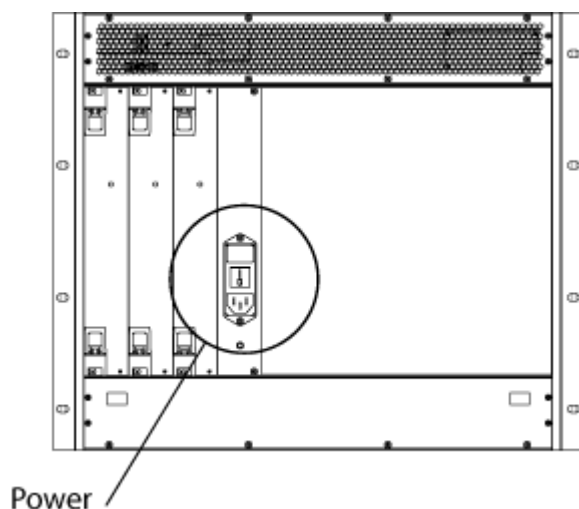
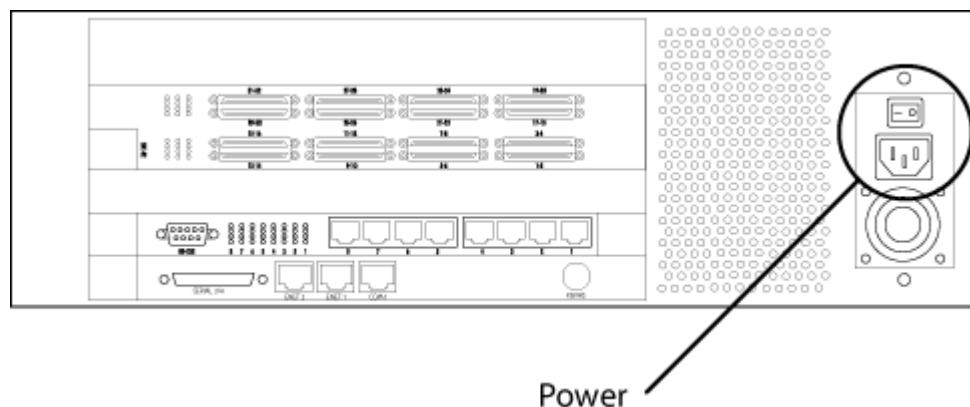

Figure 2-3. MPS 800 Power switch
Figure 2-4. MPS 200 Power switch
Then set the power switch button on the back of the chassis to '1', see **Figure 2-3. MPS 800 Power switch** and **Figure 2-4. MPS 200 Power switch** for where to find the power switch on MPS 800 and MPS 200.
1. Switch on the TANDBERG MPS by setting the power switch button on the back to '1', see **Figure 2-3. MPS 800 Power switch** and **Figure 2-4. MPS 200 Power switch** for details. The system is ready for configuration when the Power and Active LEDs on the Media Processing Boards are green and the menu appears on the LCD.